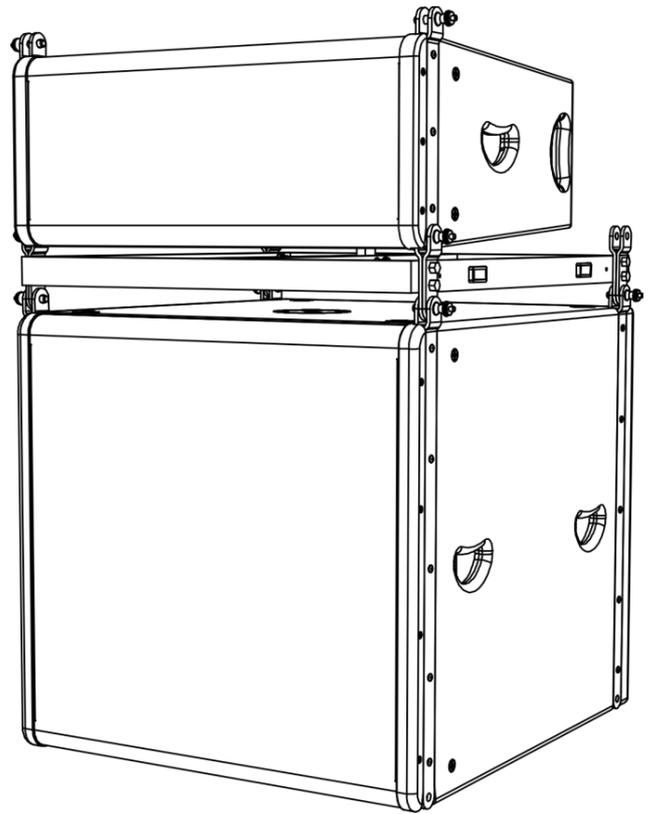

Fig. 03
- 02) You can now mount another Odin speaker on the top of the fly bar, by means of the dedicated rigging pins (fig. 03).